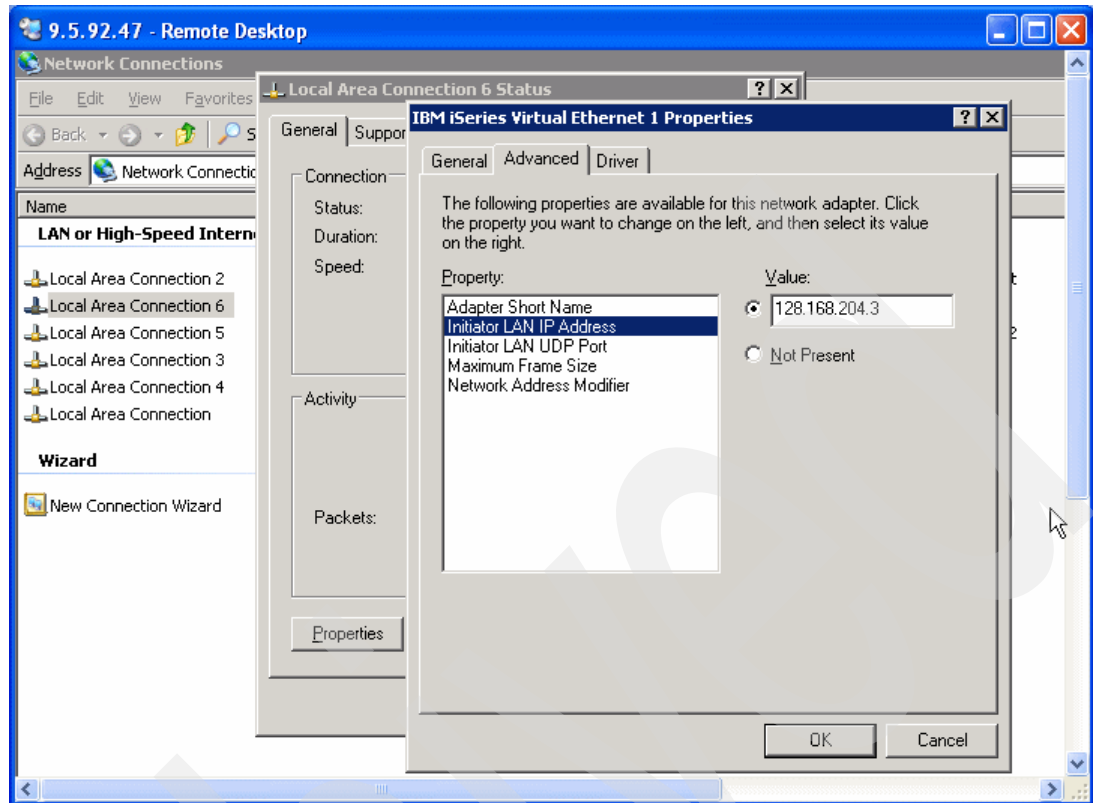

Figure 9-80 Redeploying a Virtual Ethernet LAN to a different initiator HBA port - 2
10. Click the radio button next to the blank parameter and fill in the IP address of one of the QLogic network connections that you wrote down previously. An example is shown in Figure 9-80 on page 451.